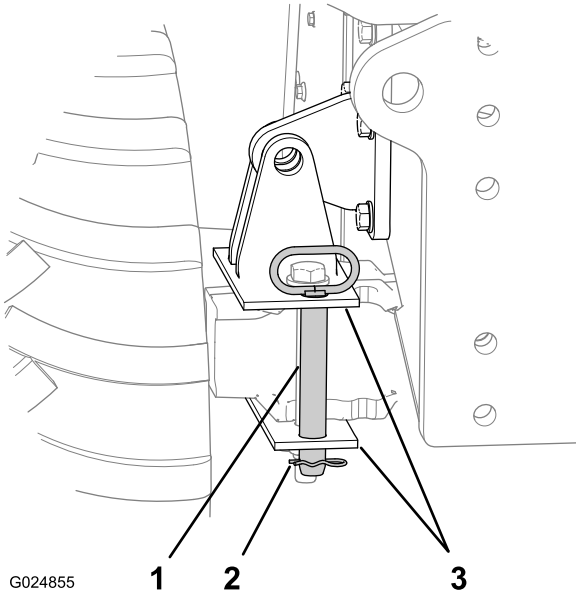

Figure 45
2. Remove the hairpin from the tilt-lockout pin (Figure 45).
1. Insert the tilt-lock pin through the vertical holes in the axle-lockout bracket (Figure 45).
2. Secure the pin to the lockout bracket with the hairpin (Figure 45).